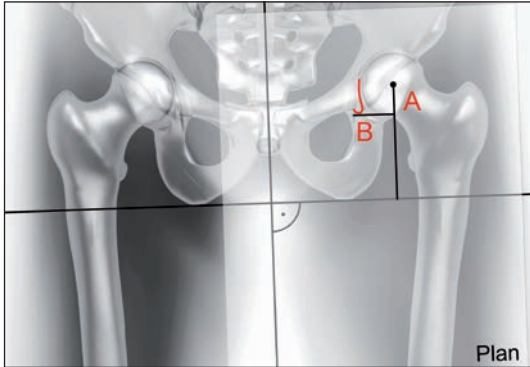

Fig. 1
- Place a planning film against the central axis of the pelvis to mark the centre of rotation (Fig. 1)